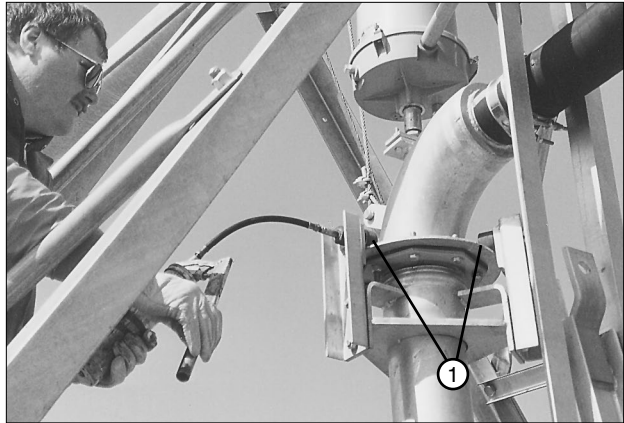

Figure 36-1 1. Upper Swivel Roller
1. Lubricate three (3) upper swivel rollers. See figure 36-1.